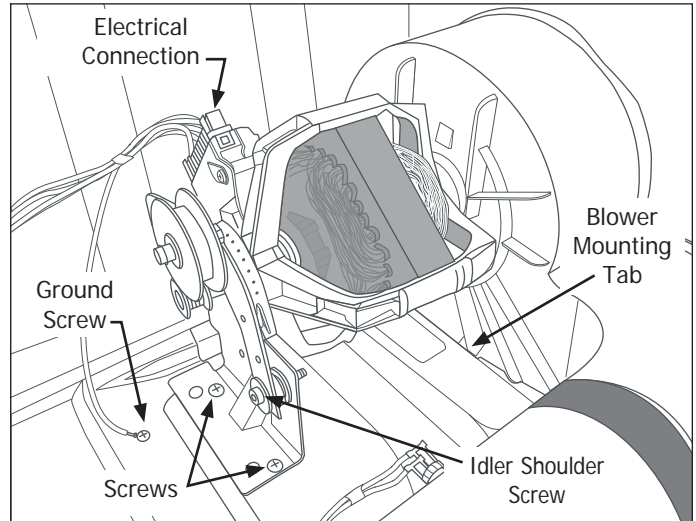

Figure 4-33.
2. Disconnect wire harness connection from the motor. (See Figure 4-33)
6. Using a #2 square bit screwdriver, extract the two screws securing motor assembly to unit base. (See Figure 4-33)